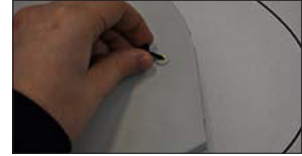

Fig. 41
3. A message “Install Thumbscrew into Cartridge” will appear. If a cartridge is being replaced, ensure that the thumbscrew is installed into cartridge if it is to be stored. (Fig. 41)